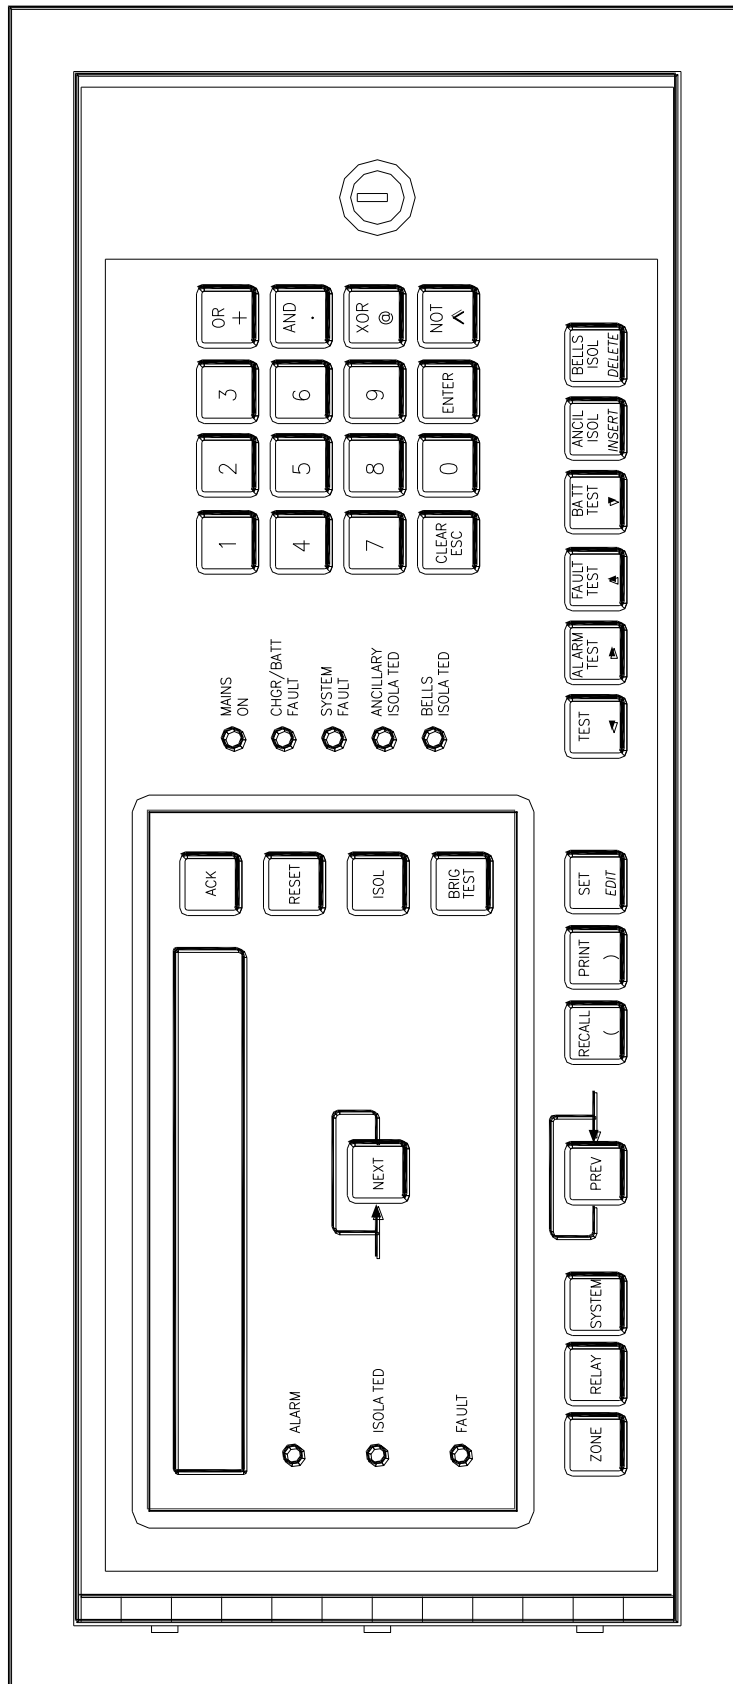

FIG 2.1.3
The Flush Slimline RDU (refer to Figure 2.1.3) is a flush mounted "slimline" RDU and has outer dimensions of 219mm (H), 502mm (W), 75mm (D). It is otherwise the same as the Slimline RDU.